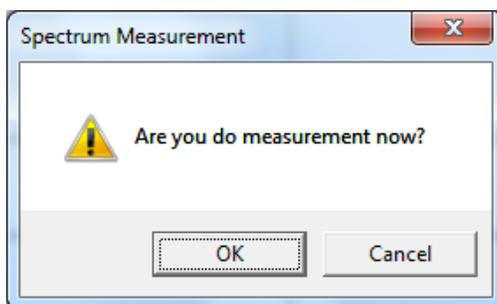

Figure 4. Initiating Data Acquisition.
5.2.5 Once all this is completed, clicking 'OK' displays a message indicating that the parameters are being transferred to the main unit and opens the window in Figure 4. Click 'OK' to initiate data acquisition.